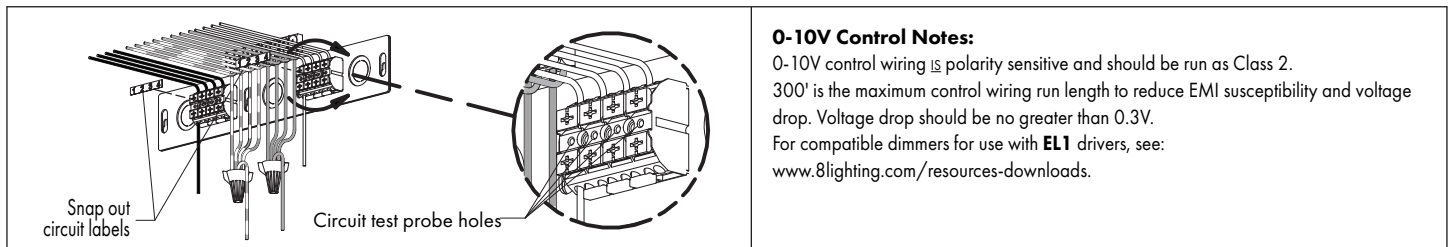

FIG 23.4 Accessing Circuit Probe Holes
STEP 3 Check circuit continuity using holes in terminal blocks - **FIG 23.4**